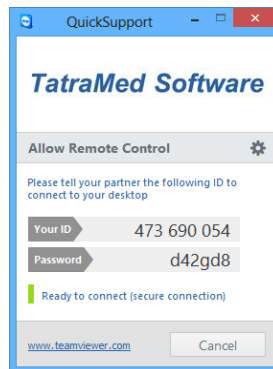

Figure 460 – TeamViewer QuickSupport with your ID and password
2. Be prepared to provide your ID and password, which are displayed in the TeamViewer QuickSupport application (see Figure 460), and call the TatraMed customer support center (see 28 Contact).